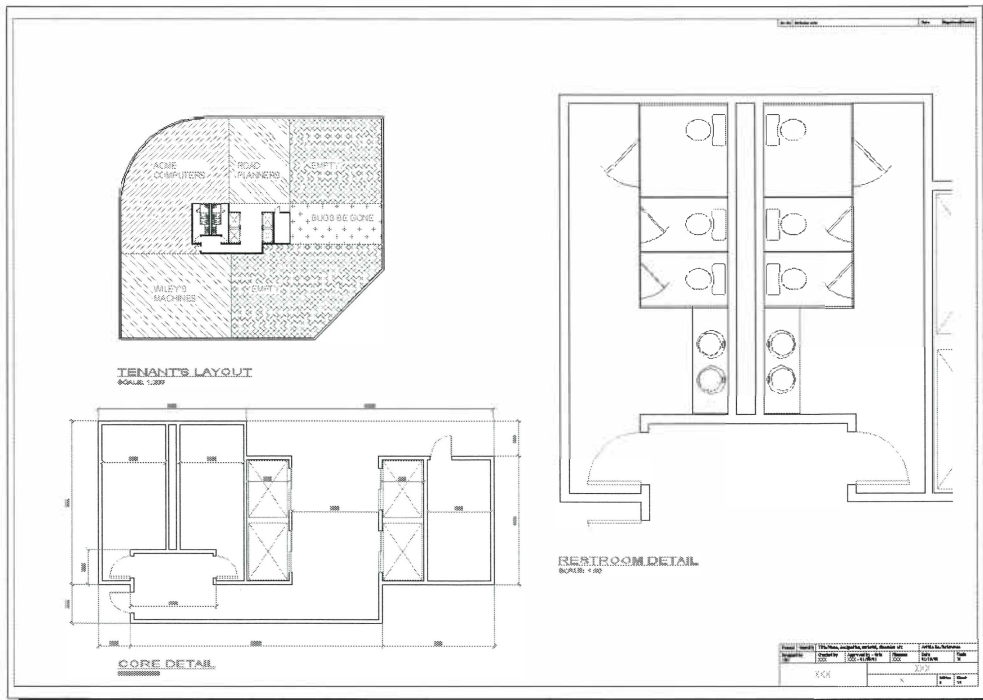

Figure 12–13
2. Draw a rectangular building outline of **45720 x 38100**, starting with the absolute coordinate **3000,3000** in the lower left corner, as shown in Figure 12–14.